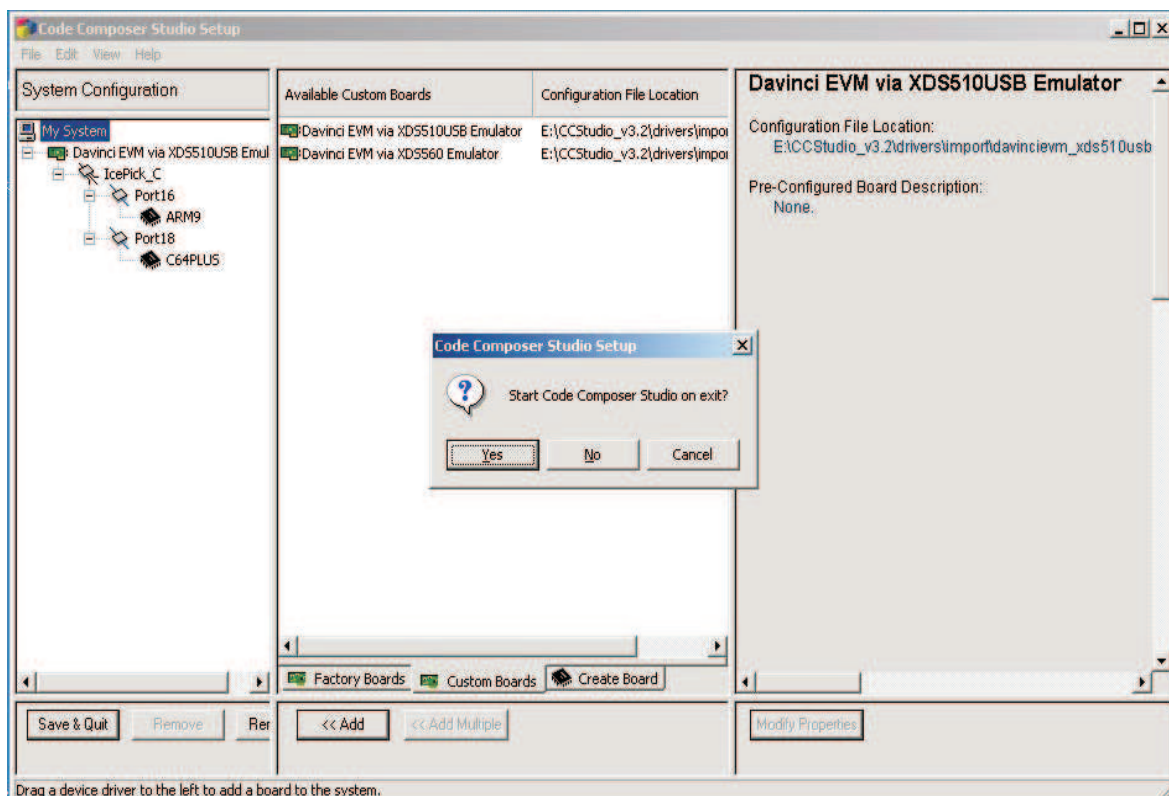

Figure 8. Code Composer Studio Setup Exit
- Step 3. Click the *Save & Quit* button, present in the bottom of the left pane. This will query you the start Code Composer Studio on exit as shown in Figure 8.